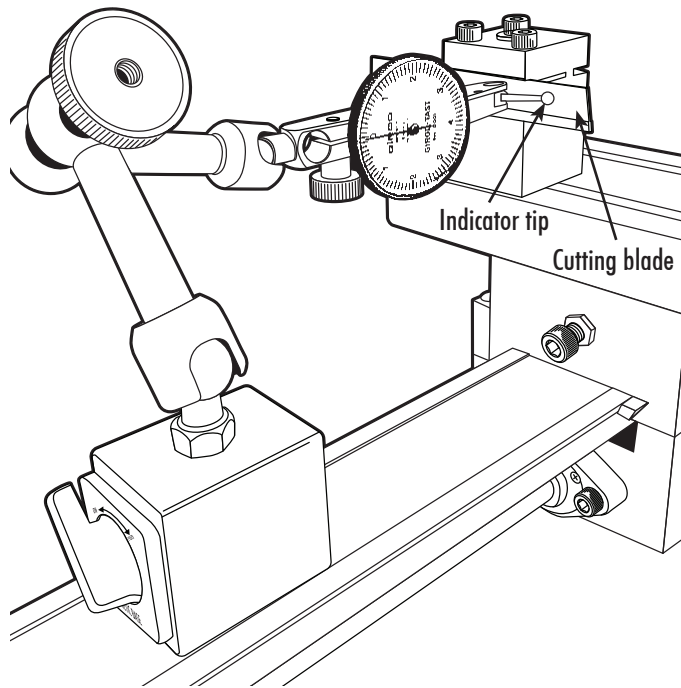

FIGURE 3—The standard rear-mounted cutoff tool holder (P/N 3018) is shown for reference.
3. Align the blade accurately with the crossslide to assure a square cut. The most accurate way to make sure that your blade is perfectly square to the part, is to use a test indicator and indicate the side of the blade from the cutting tip to the holder body. Rotate the tool holder until the blade is square, and then tighten the holder mounting screws. The larger the diameter of the part, the more critical it is that the blade is square to the part (see Figure 3).